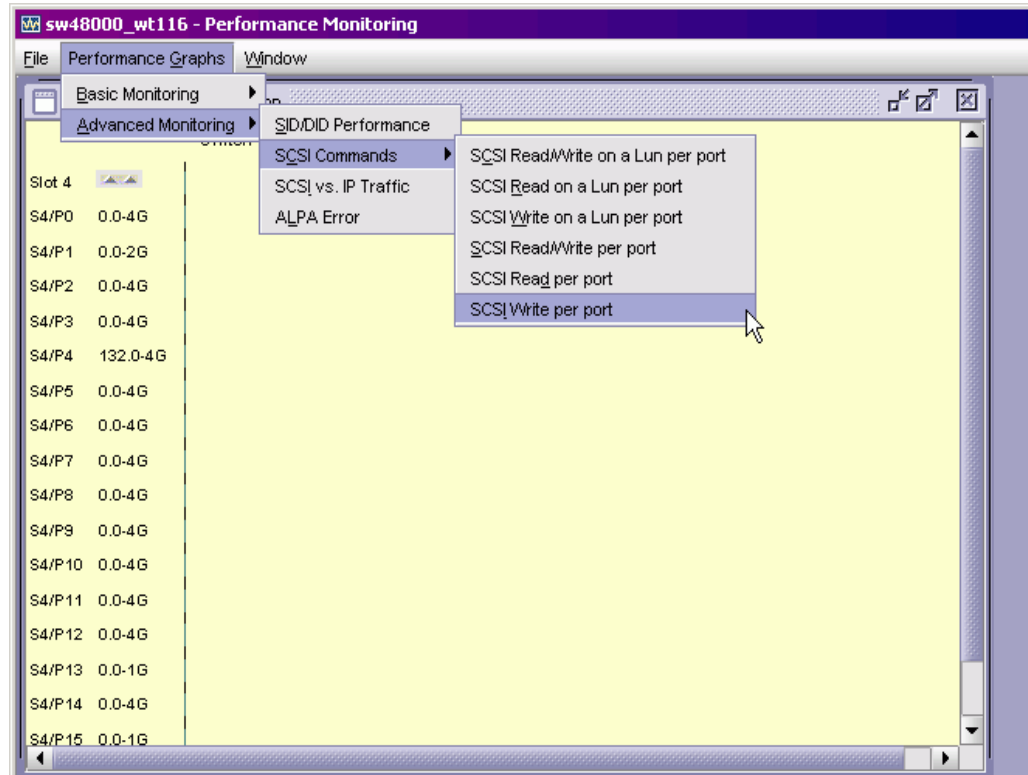

FIGURE 34 Accessing performance graphs
- For the Brocade 48000 and DCX and DCX-4S enterprise-class platforms, slot numbers are displayed with expansion arrows next to them, as shown in Figure 34 on page 107. Click the arrows to expand and contract the list of ports per slot.
Figure 34 shows how to access the list of Advanced Performance Monitoring graphs using Web Tools with the EGM license. This example displays the graphs available in the Performance Monitoring window for a Brocade 48000 director with the Advanced Performance Monitoring license installed. Note that the slot number is identified.